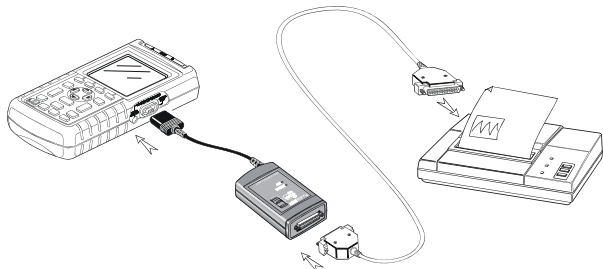

Figure 7-2. Connecting a Parallel Printer
- The Print Adapter Cable (PAC91, optional) to connect a parallel printer to the OPTICAL PORT of the test tool. See Figure 7-2.